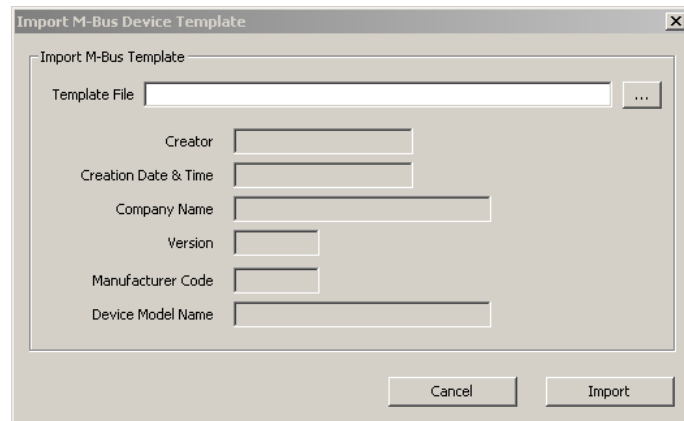

Figure 213: Import M-Bus Device dialog.
3. Click on the **Create From Template** button. This opens the **Import M-Bus Device Template** dialog shown in Figure 213.